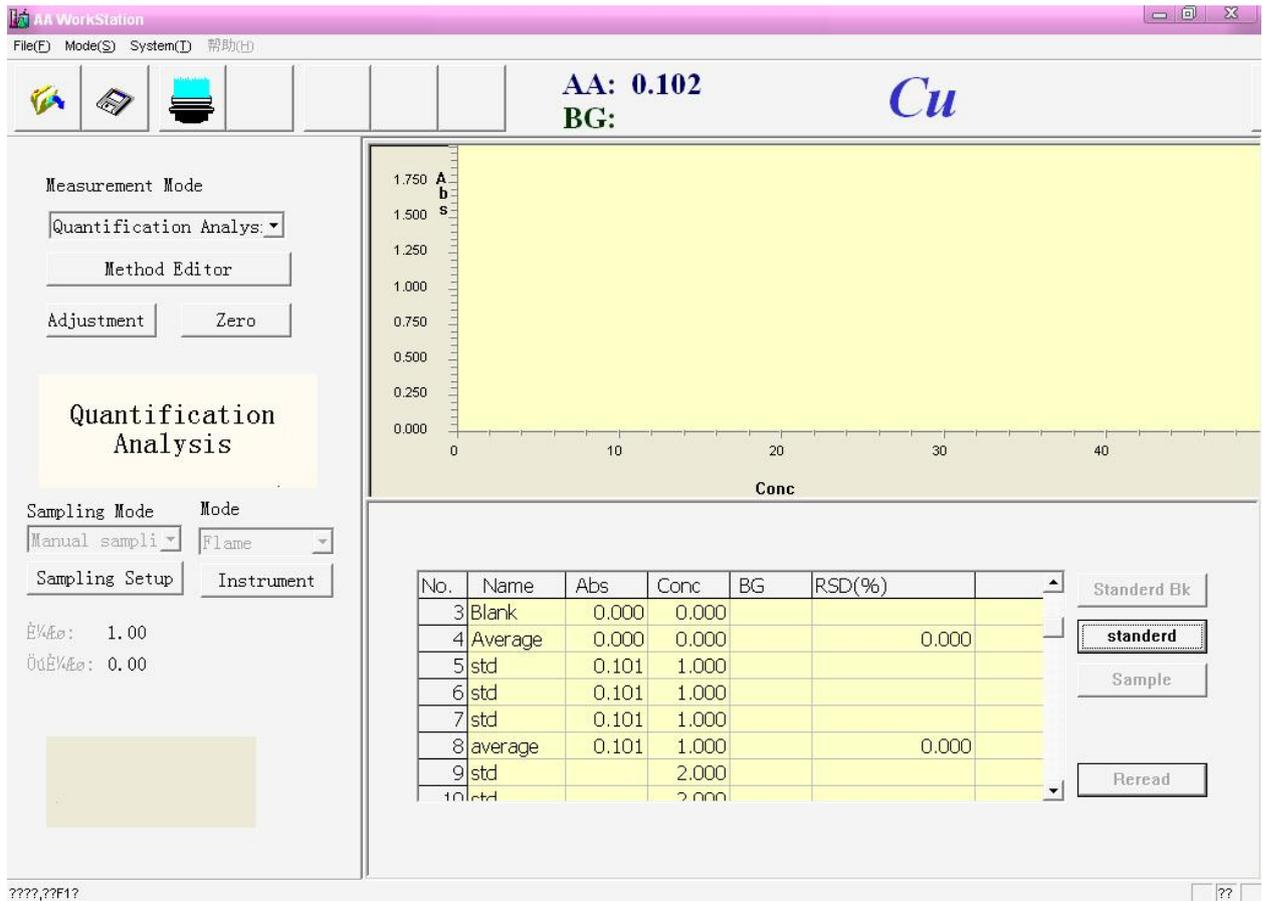

Figure 5-14
11. Spurt and absorb standard aspmle bland 1 again, press **【Standard】** button, shown in Figure 5-14